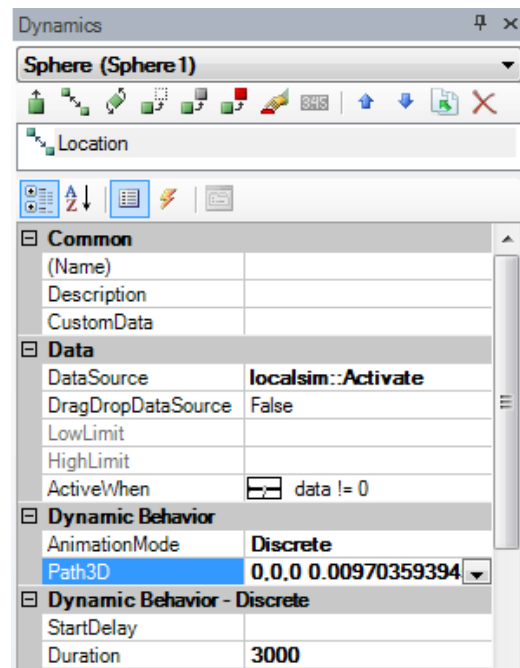

Figure L5.5 - Location Dynamics Properties
10. Your Location dynamic's properties should look similar to Figure L5.5.